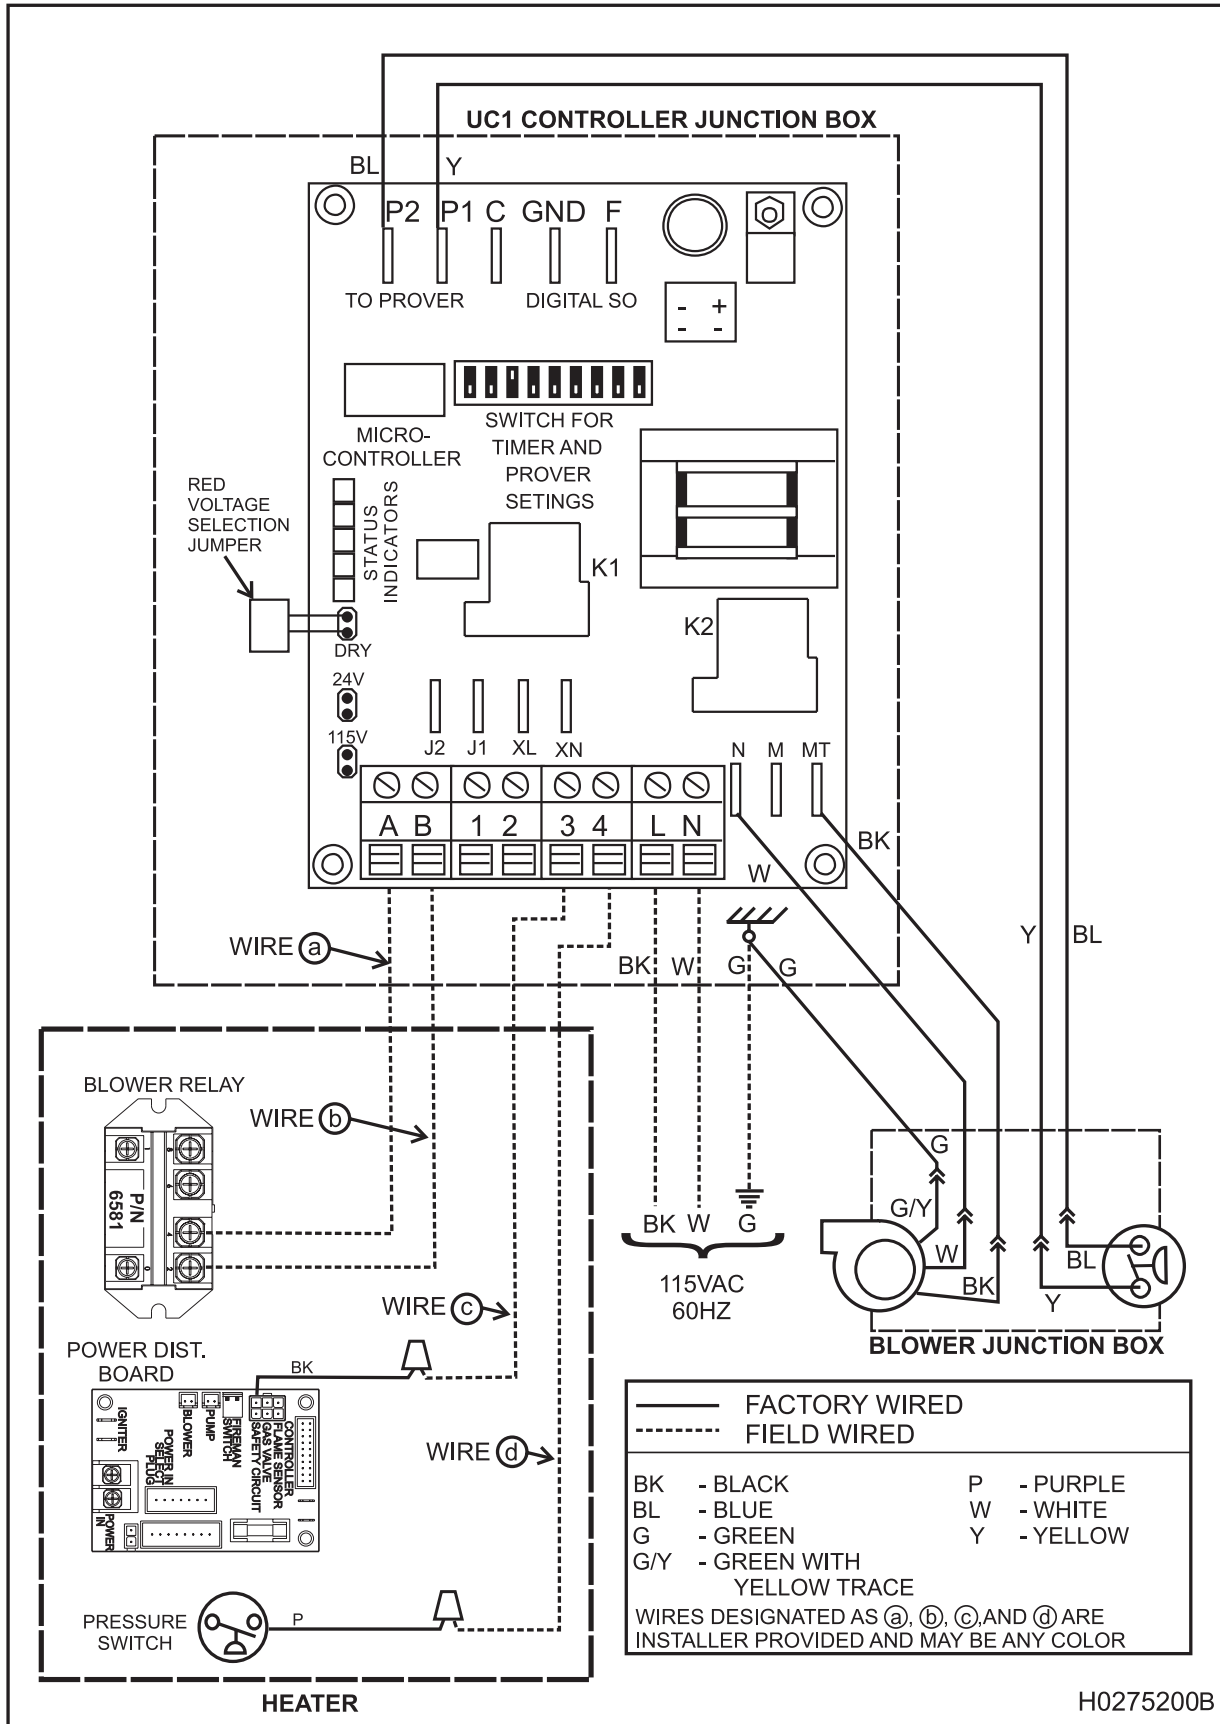

Figure 11. Wiring Diagram for Connecting a Model LJ Heater to a Side Wall Power Venter
following connections in the heater's vestibule (see Figure 11, Wiring Diagram).
3. Connect the wires to the UC1 as follows (see Figure 11).
The Jandy LJ heater uses an integrated circuit to sense a 24V signal, then energizes a relay (dry switch) to activate the power venter blower. When using the UC1 controller with a dry switch, the "Call Jumper" between terminals J1 and J2 must be removed (see Figure 11).